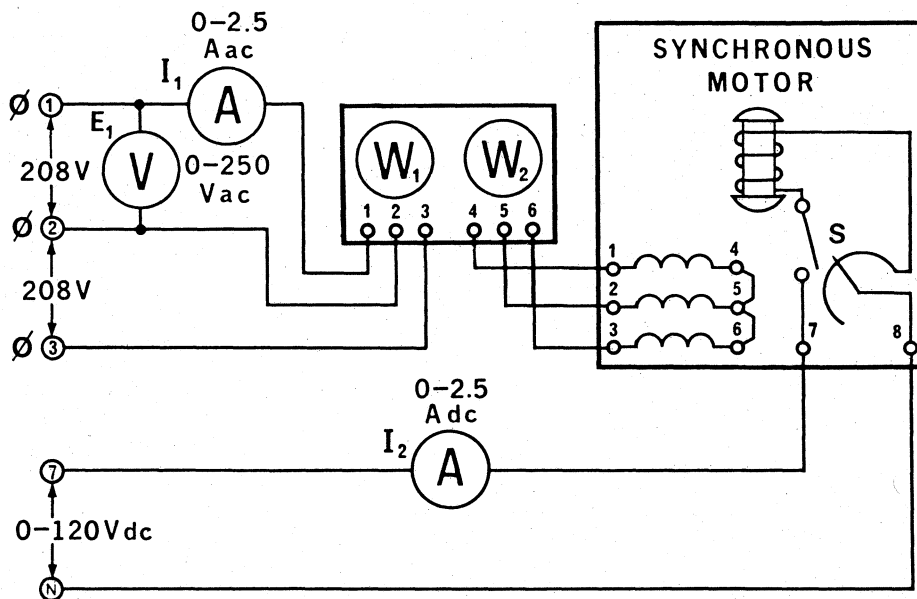

Figure 8-1.
- a. Using your Three-Phase Synchronous Motor/Generator, Single-Phase Wattmeter, Power Supply, AC Ammeter, AC Voltmeter and DC Voltmeter/Ammeter, connect the circuit shown in Figure 8-1. Note that the stator windings are connected, through the wattmeter, to the fixed 208 V 3 ϕ output of the power supply, terminals 1, 2 and 3. The rotor winding is connected, through the ammeter, to the variable 0-120 V dc output of the power supply, terminals 7 and N. The voltage adjust control knob should be at zero.